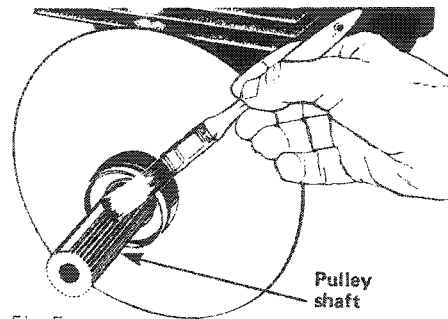

Fig. 5
6. Lubricate pulley shaft with Ski-Doo clutch lube. Install spring and outer half of pulley. (Fig. 5).